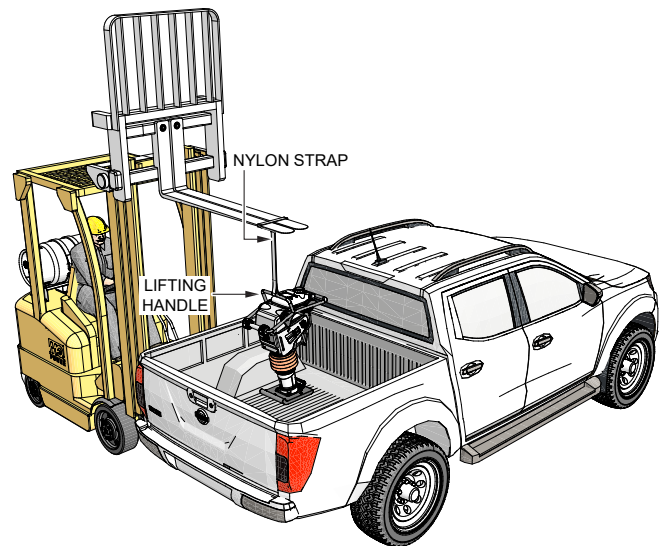

Figure 4. Rammer Lifting (Forklift/Crane)
4. When using a forklift or crane to lift the rammer, attach a suitable lifting strap to the **lifting handle** on the rammer as shown in Figure 4.